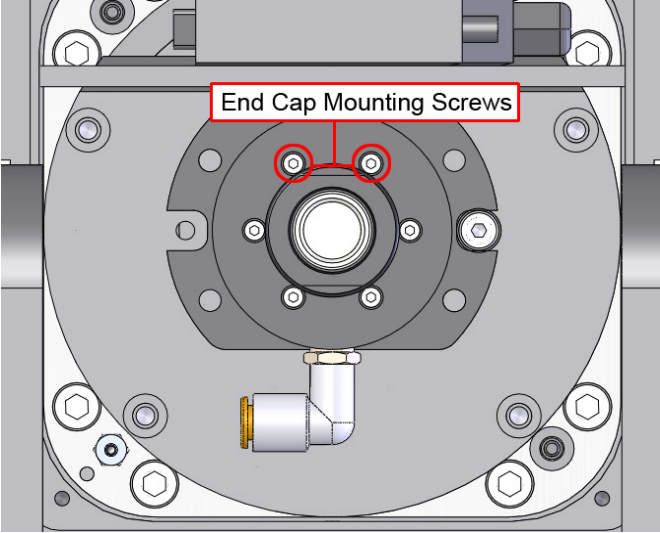

Figure 4-9: End Cap Mounting Screw Location
Step 3: Remove the six end cap mounting screws from the rear end of the rotary union (see Figure 4-9).